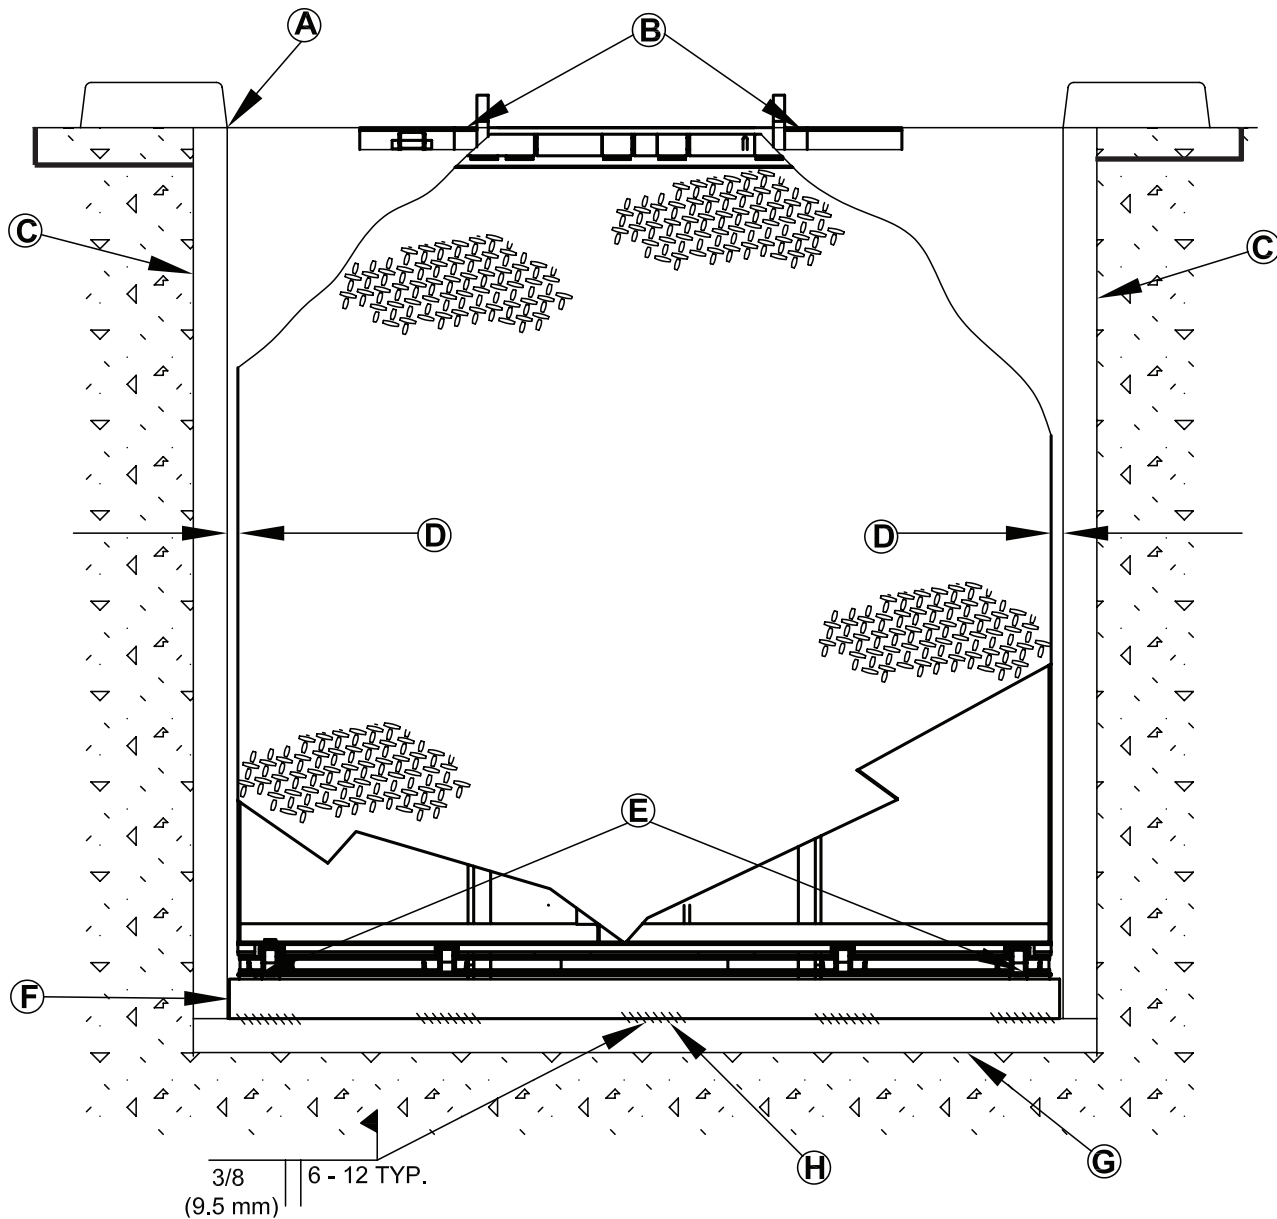
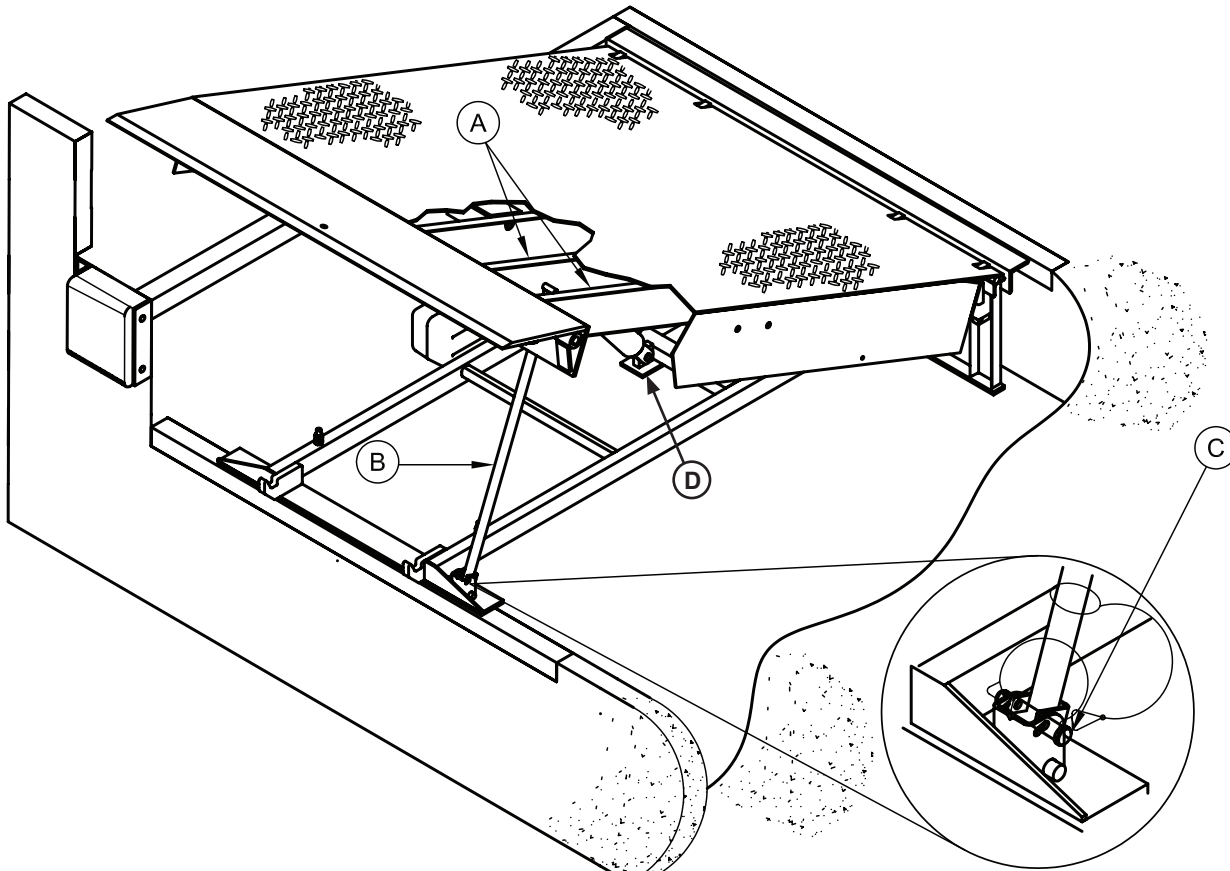

Figure 13
Figure 14
Note: Figure 13 shows a typical weld pattern. The weld pattern will vary slightly depending on size of dock leveler.
17. Shim and weld the maintenance prop (Figure 14):
- a. Install shims under maintenance prop (B) where prop attaches to leveler frame (C). Make sure prop is solidly shimmed.
- b. Raise maintenance prop (B) to the service (upright) position and lock prop in this position using an OSHA approved locking device.
18. Install shims at locations (C and D) using the pyramid or stepped shimming method (see Figure 13). Both platform cylinder trunnions must be solidly shimmed the entire length of the trunnion. Make sure the trunnions are level from side-to-side as well as from front-to-back.